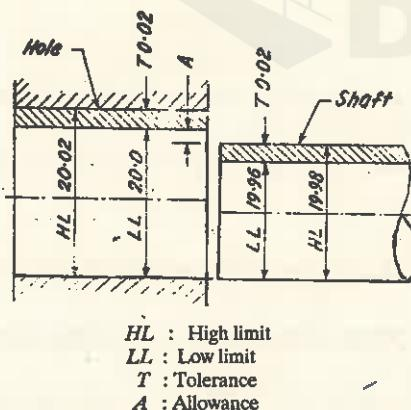

Fig. 5.3. Limits and tolerances for hole and shaft.
- In interchangeable system is also called a *limit system* or system of *limits and fits*. Fig. 5.3, gives the concept of limits, tolerance and allowance.
- The larger and smaller dimensions of the hole or shaft are called the **LIMITS**, there is a *high limit* (HL) and a *low limit* (LL).